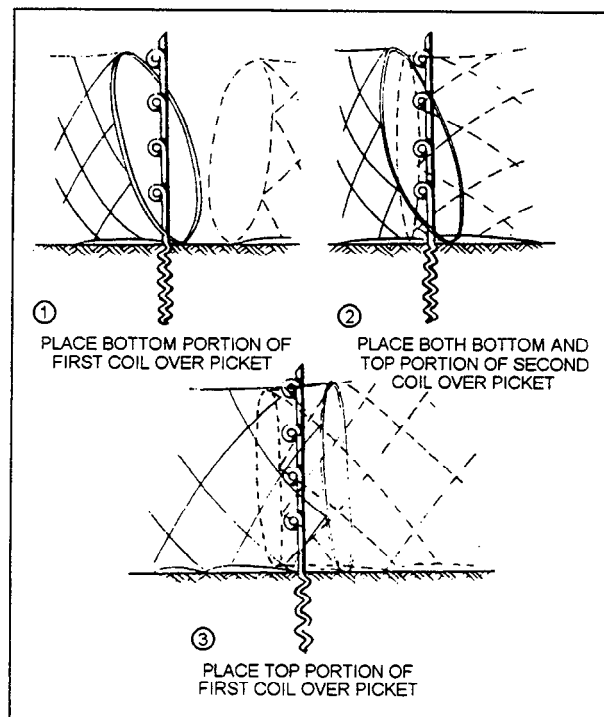

Figure 8-28.—Joining concertina.
2. Lift each front-row concertina, in turn, and drop it over the long pickets; then join concertina ends, as shown in figure 8-28.